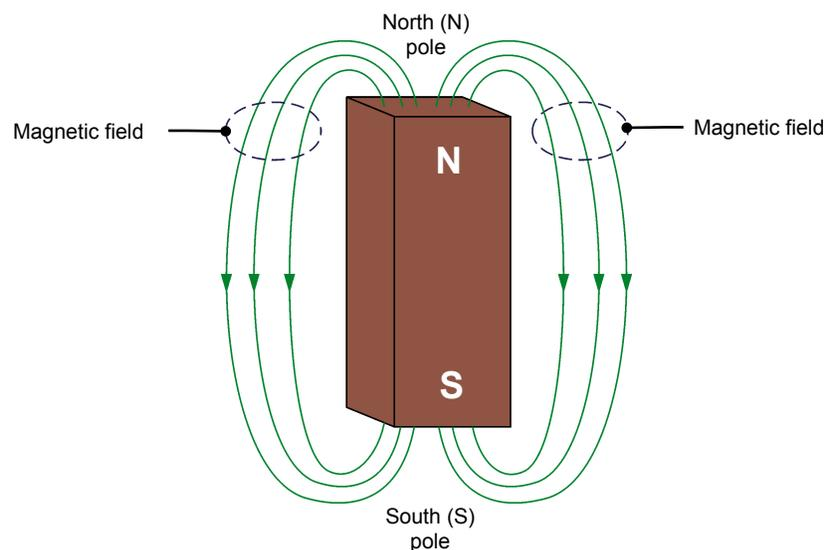

Figure 13. A permanent magnet has two poles called north (N) and south (S).
A permanent magnet is a piece of iron or metal surrounded by a magnetic field, as Figure 13 shows. This magnetic field is constant, i.e., it persists naturally without the need of an electrical current. The magnet has a north (N) pole and a south (S) pole. These poles are situated near the ends of the magnet where the magnetic field strength is the strongest.